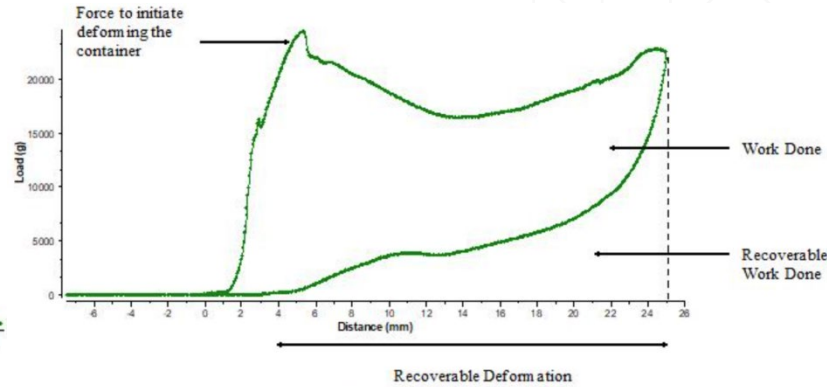

Figure 2
- Figure 2: Load vs. Distance graph illustrates the work done to crush the container and its recoverable deformation.